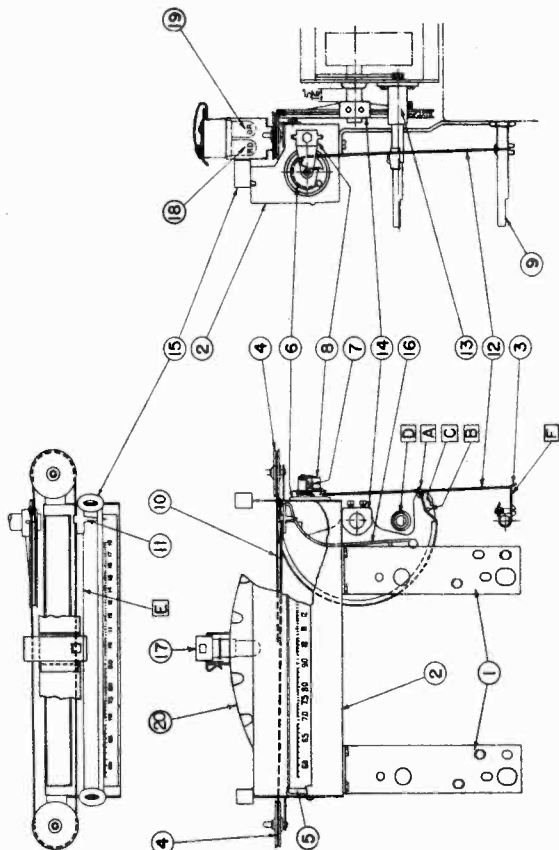

Fig. 4. Dial Mechanism
The dial mechanism (Fig. 4) is mounted to the chassis by means of two brackets and four self-tapping screws. Motion is imparted to the gang condenser rotor through a series of pulleys and an interconnecting cable to the dial pointer slider which is supported on a rail above the dial scale.
Rotate the drive drum (11) counter-clockwise until the gang condenser plates are fully open. Place the end of the cable having an eyelet in slot (A). Thread the cable as shown in Fig. 4, making certain that the cable passes over the pin (B) and runs along the correct groove; the looped end hooking over the tension spring (18). Check the position of the drive wheel (14) on the condenser shaft to make sure that the cable coming off the right-hand idler pulley lines up with the groove in the drive pulley. Also, as the condenser plates become fully meshed, the drive wheel (14) should just meet the bushing (D) of the reduction drive unit (13). With the drive wheel in this position, place the pointer on the rail (E) and, with the tip of the pointer (11) on the extreme left-hand dial scale division of Broadcast band, crimp the pointer tab on the drive cable.
Three positions of the dial pointer cable are provided on the drive drum (14) to adjust the dial pointer up or down scale. The position shown in Fig. 4 with the cable over pin (B) is the medium position. Changing the cable to the position between pins (B) and (C) moves the pointer down scale. The position below the pin (C) moves the pointer up scale from the medium position. With the gang plates closed, set the pointer at the extreme left-hand dial scale marking on the Broadcast band.